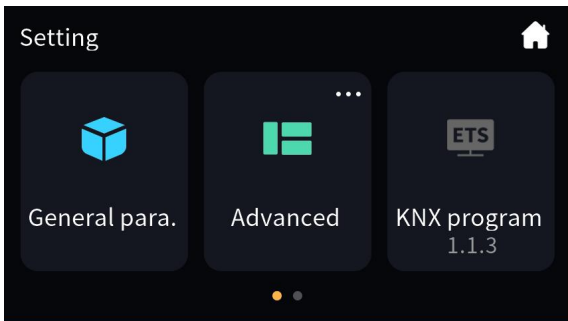

Fig.2.3.1
Click the setting icon in the upper-right corner of the home page to enter the setting page, as shown in Fig.2.3.1.
① **Return to the home page by touching this icon;**
② **This icon is KNX programming button, and display individual address of device below, which is set by ETS;**
Touch the button icon ② to enter or exit the physical address programming mode. Under the programming mode, the icon turns red, as shown in Fig.2.3.3. After exiting the programming mode, the icon returns to the normal instruction, as shown in Fig.2.3.1.
③ **Return to the setting page by touching this icon;**
④ **This area displays the page description identification of Setting page, format as: setting| description of function page currently manipulated;**